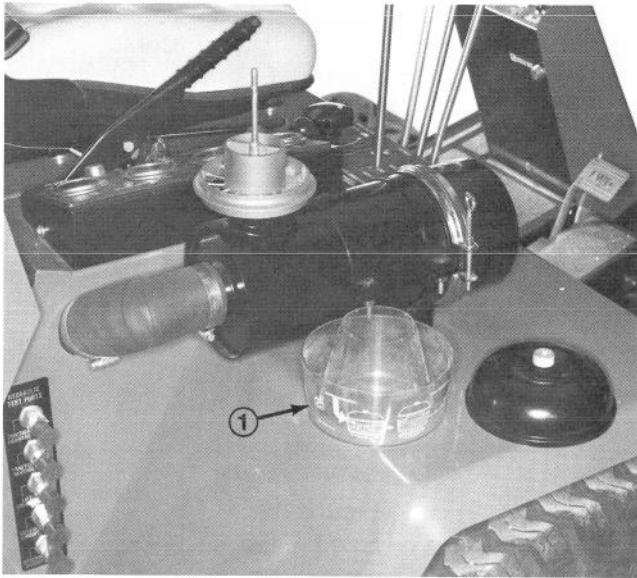

Figure 32
1. Precleaner Bowl Service (Fig. 32) – Normally, inspect precleaner bowl daily. When conditions are extremely dusty and dirty, inspect precleaner bowl more frequently. Do not let dust build up above level marks on precleaner bowl.